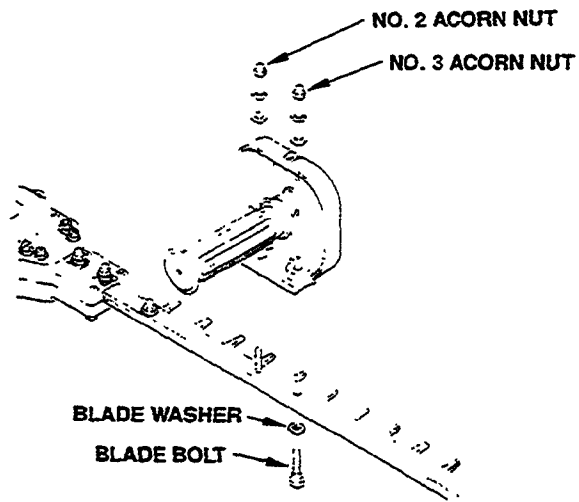

Figure 2
- Install the front handle onto the second and third bolts of the cutter bar as shown in (Figure 2).
- Re-adjust the cutter blades by loosening all the acorn nuts on the topside of the cutter bar, including those at the handle. (**Figure 2**).